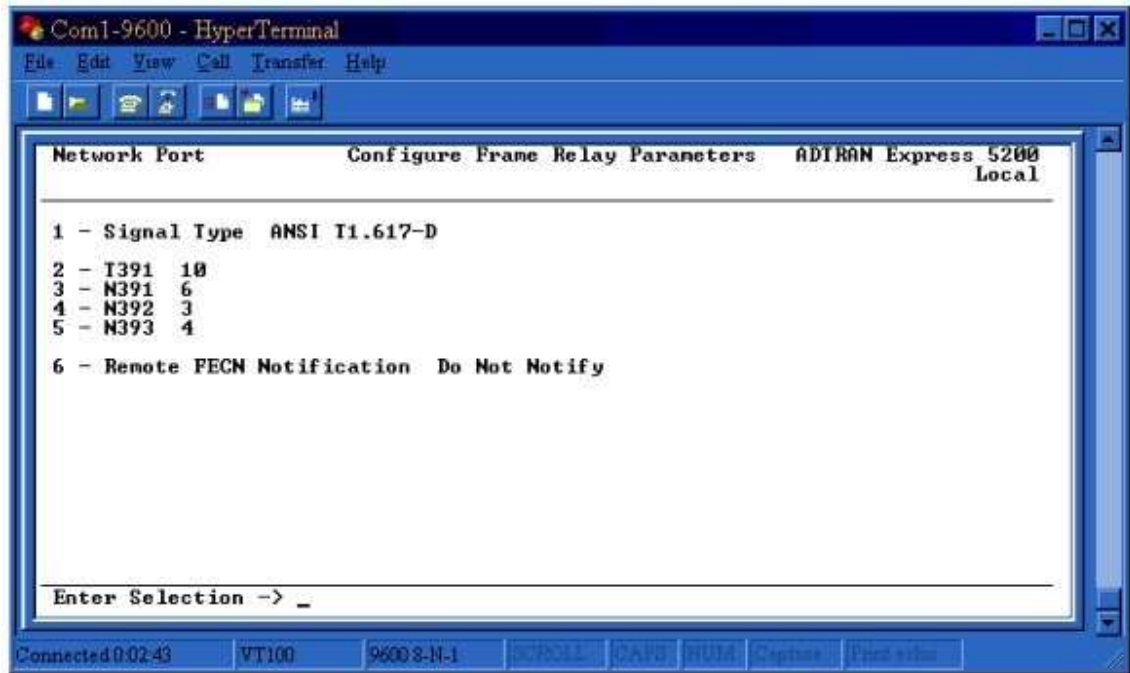

Figure 6
4. Press <Esc> to return to the previous menu. Enter 2 and press <enter> to select **Frame Relay Options**. Select the appropriate frame relay **Signal Type** as determined by the frame relay service provider. For the example network, we will be using *ANSI T1.617-D* (also known as Annex D) signaling. See Figure 6.